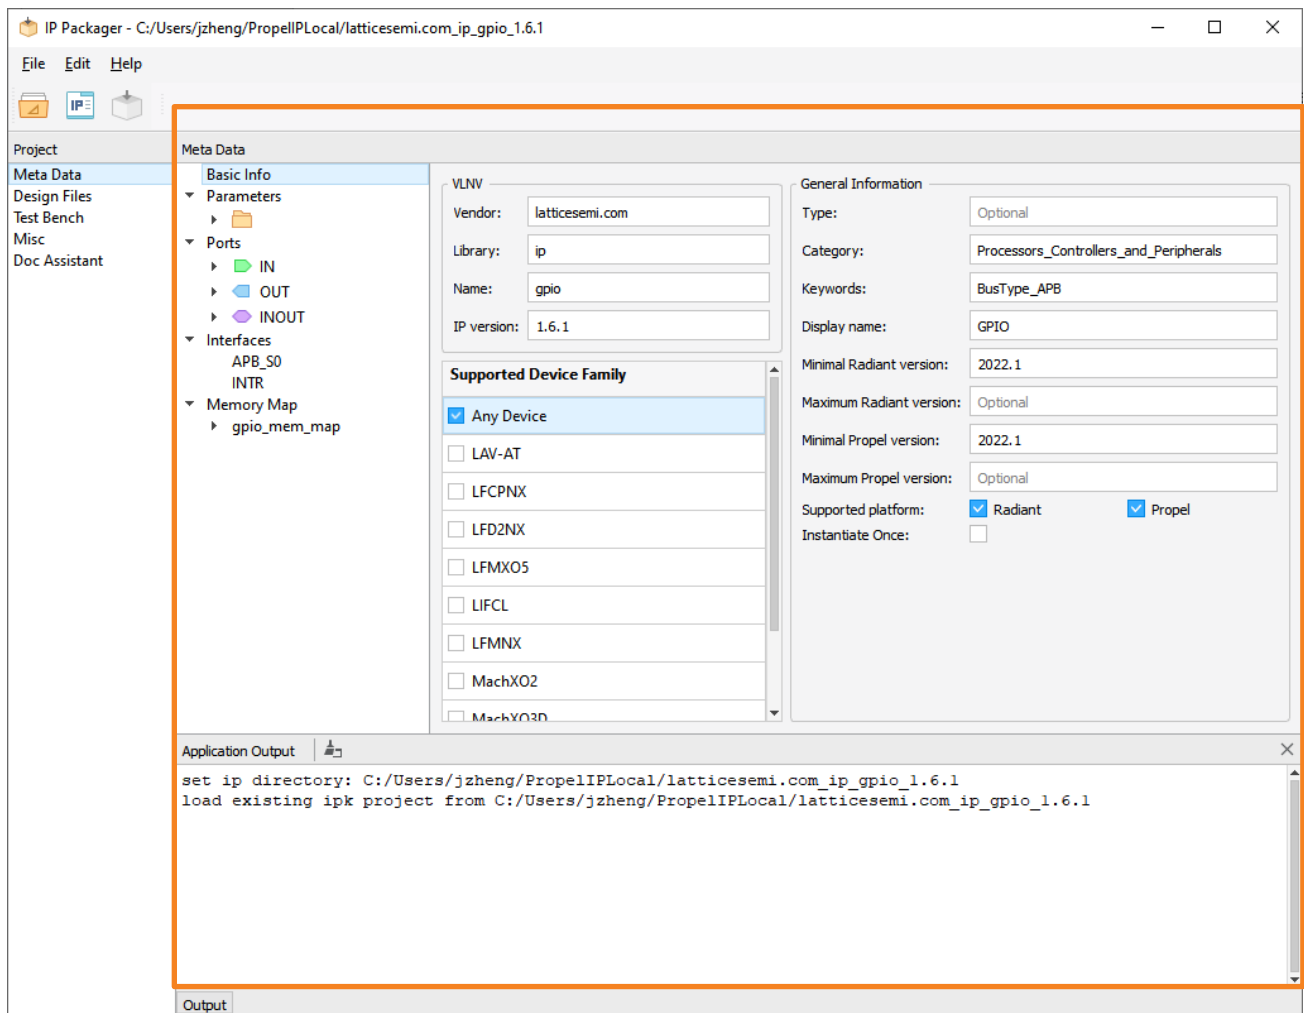

Figure 3.6. IP Packager with Meta Data Details
- From the IP Packager Project area, click **Meta Data**. The IP Packager GUI shows Meta Data information in detail (Figure 3.6).